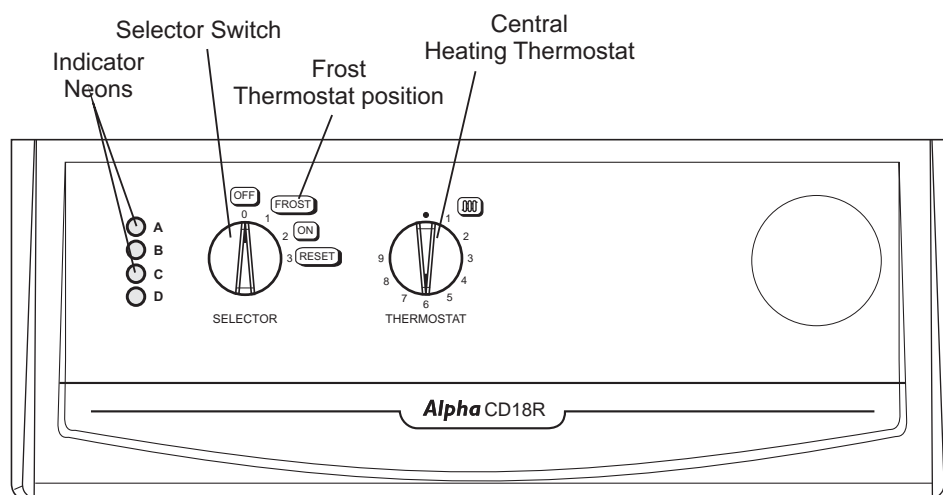

Fig. 22
5.2 BOILER CONTROLS - Fig. 22
5.4 INITIAL LIGHTING - Refer to Fig. 22